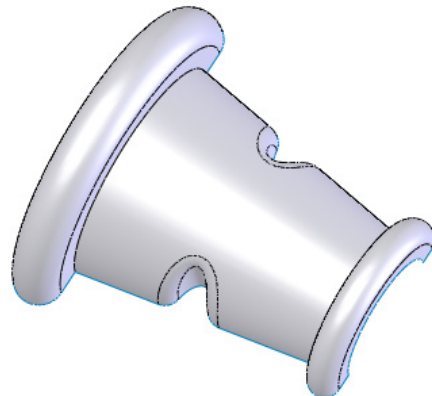

Figure 1-126 Resultant fillet feature
3. Set **5** in the **Radius** spinner and then choose the **OK** button from the **Fillet PropertyManager**. Figure 1-126 shows the model after adding fillet.